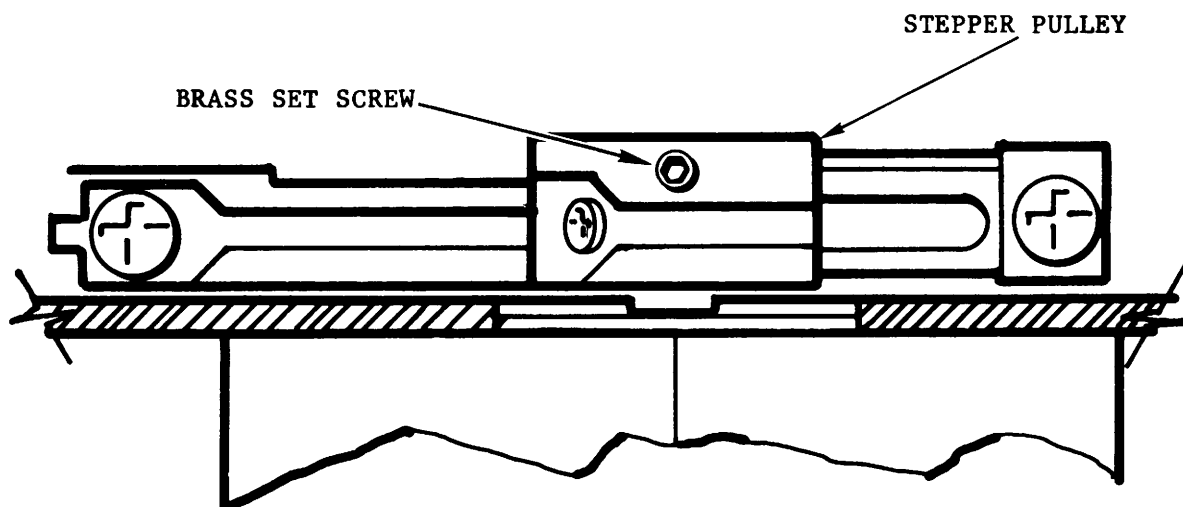

Figure 5-11. Stepper Pulley/Band Assembly
- 8) With the heads at track 16, loosen the set screw in the stepper pulley (see Figure 5-11) using the 0.050 hex screwdriver and CAREFULLY position the pulley until the scope pattern appears with peaks of equal amplitude. *If you mis-adjust the radial-track alignment, one of the EYES will decrease in amplitude while the other increases in amplitude.